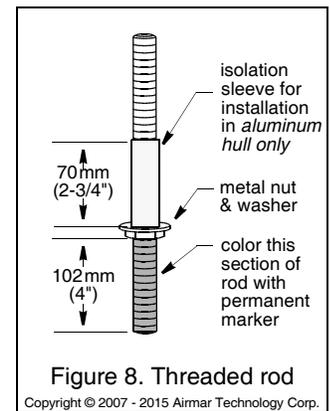

Figure 8. Threaded rod
- Prepare the threaded rods (see Figure 8). Using a permanent marker, draw a line on each threaded rod 102mm (4") from the end and color this section. (The colored section will be used to fasten the transducer to the fairing.) Screw a nut onto the colored section of each threaded rod *above* the 102mm (4") line drawn.
- Slide a washer along the *uncolored* section of each threaded rod until it rests against the nut (see Figure 8).